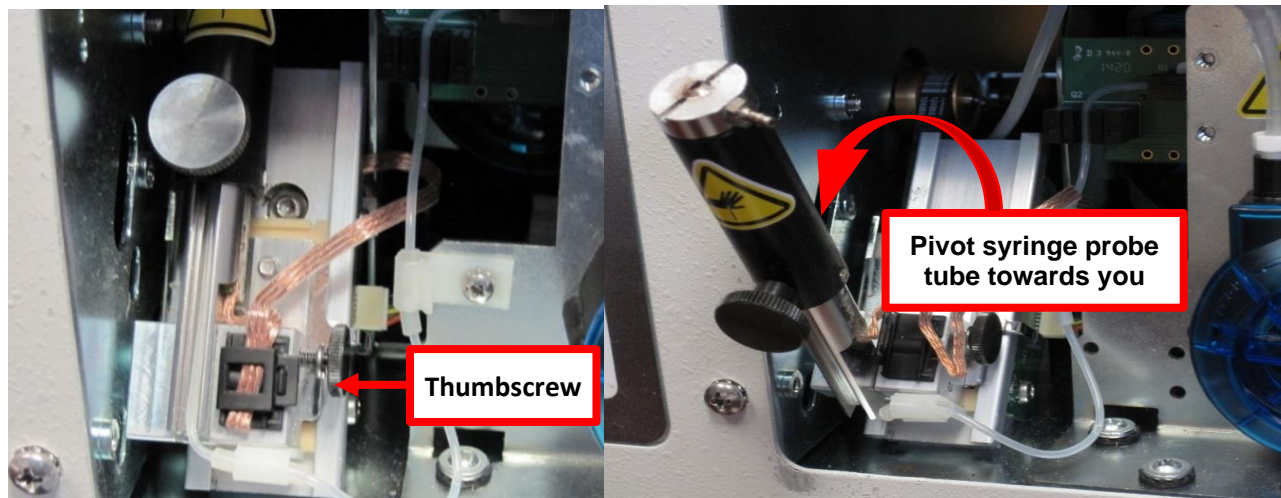

Figure 4
4. Loosen the **black** Thumb Screw **on the side** of the piercing system to allow the Probe Tube to be moved forward. Only loosen the Thumbscrew until the Probe Tube can be pivoted out. Do not remove Thumbscrew from the piercing system. (Figure 4)